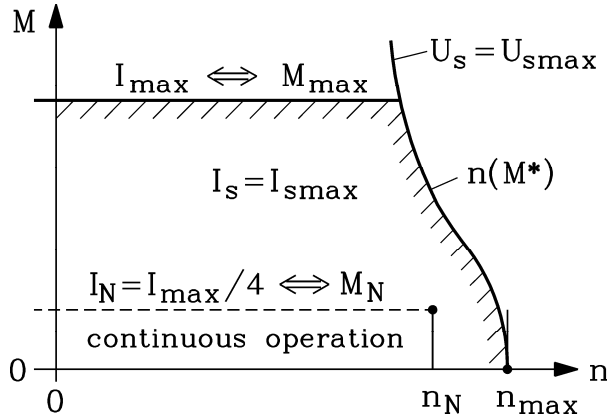

Fig. 3.9-1: Voltage, current and thermal limit of PM drive
- 6.) Draw the $M(n)$ -curve of the PM motor Fig. 3.9-1 due to current and voltage limit. Give further $M(n)$ -curve for continuous operation (Scale: Abscissa: 100/min per cm, ordinate: 10 Nm per cm).